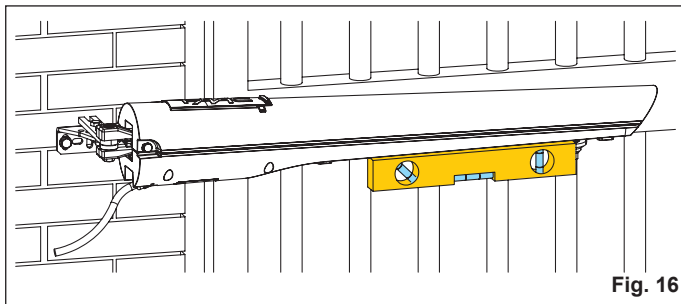

Fig. 16
9. Check that the operator is horizontal using a level, as indicated in Figure 16, and temporarily secure it with clamps or two welding points.